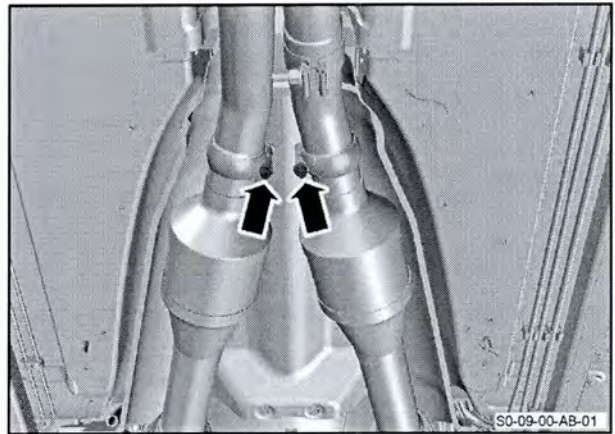

Figure 4
9. Loosen the two bolts on the clamps that attach the catalytic converter and pipe assemblies to the centre exhaust pipe (refer to Figure 4).